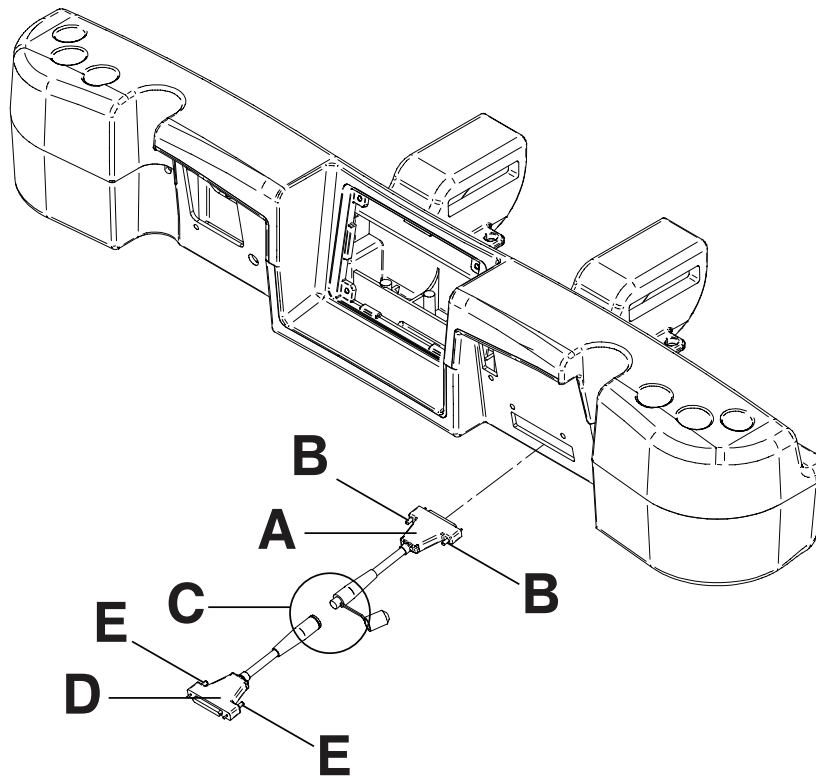

Figure 104: Wall saver connections
1. Insert the pin end of the first connector (A) into the head end of the product (Figure 104 on page 107).
2. Screw the connector fasteners (B) in to secure the connector to the product (Figure 104 on page 107).
3. Connect the back end of the second connector into the back end of the first connector (C) (Figure 104 on page 107).
4. Insert the pin end of the second connector (D) into the wall (Figure 104 on page 107).
5. Screw the connector fasteners (E) in to secure the connector to the wall (Figure 104 on page 107).